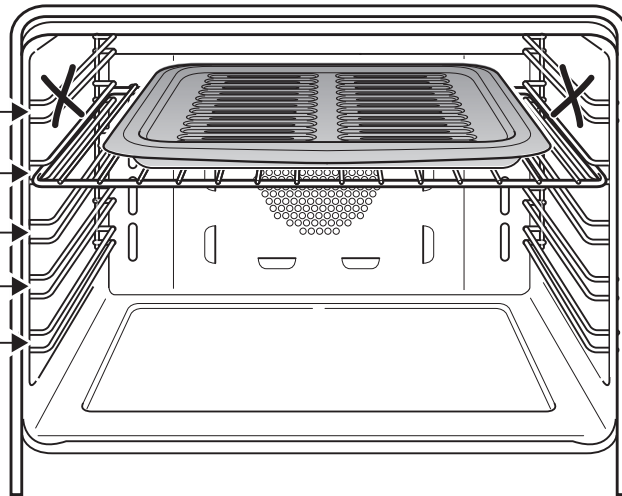
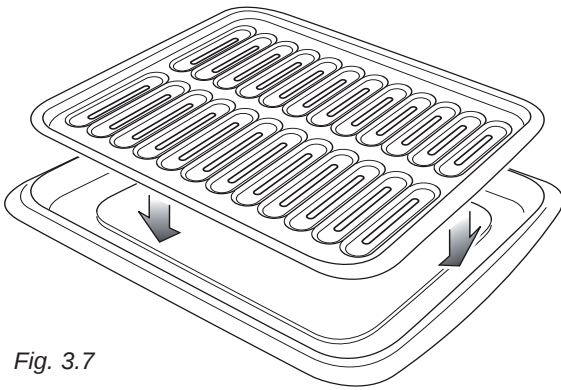

Fig. 3.6
Fig. 3.7
- Position the shelf on the second level from the top (fig. 3.6).
- Introduce the broiling pan in the oven (figs. 3.7 - 3.9). The broiling pan should be placed above the shelf and it should be centered with the broil burner (fig. 3.6).